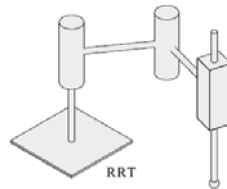

Figure 8.5 SCARA robot arm
- The SCARA (Selective Compliant Articulated Robot for Assembly) robot arm appeared relatively late in the development of industrial robotics (Figure 8.5).